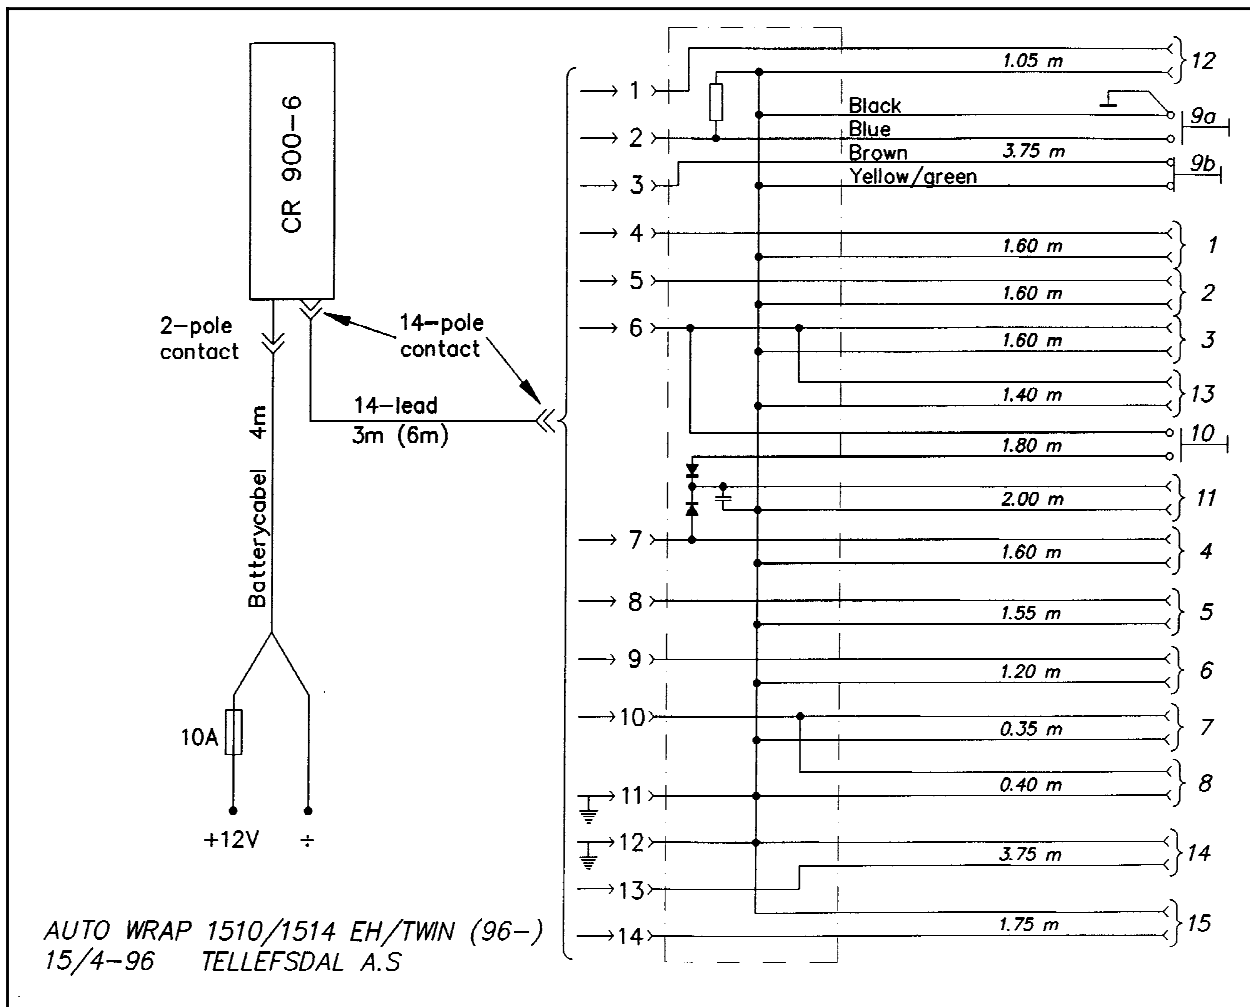

Fig. 13-1
The electric system consists of a remote control unit with supply line, control cable, (14-lead), with plug in both ends, and distributing lines to the different magnet valves and switches on the machine. (See fig. 13-1).
13.4 POWER DISTRIBUTION. (See fig. 13-1)
(See the diagram of connections, fig. 13.1.)